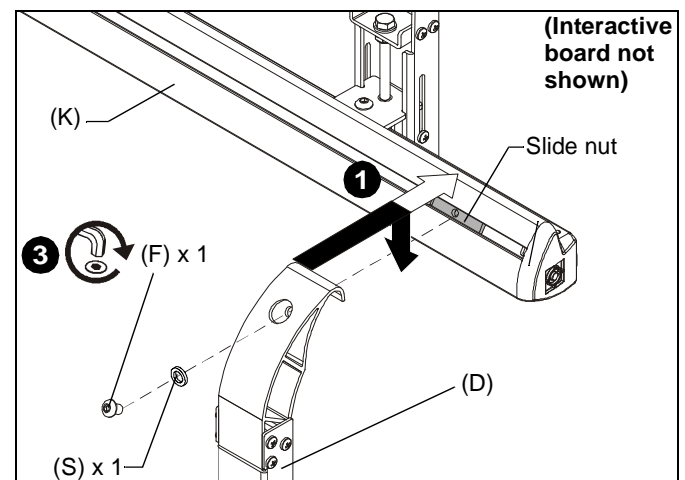

Figure 5
- Hook whiteboard with attached uprights onto the wall assembly (K). (See Figure 5)
- Move the slide nut so that it is aligned with the upright (D). (See Figure 5)
- Fasten upright in place using one 1/4-20 x 3/8" button head cap screw (F) and one .4"x.255"x.0625" nylon spacer (S). (See Figure 5)